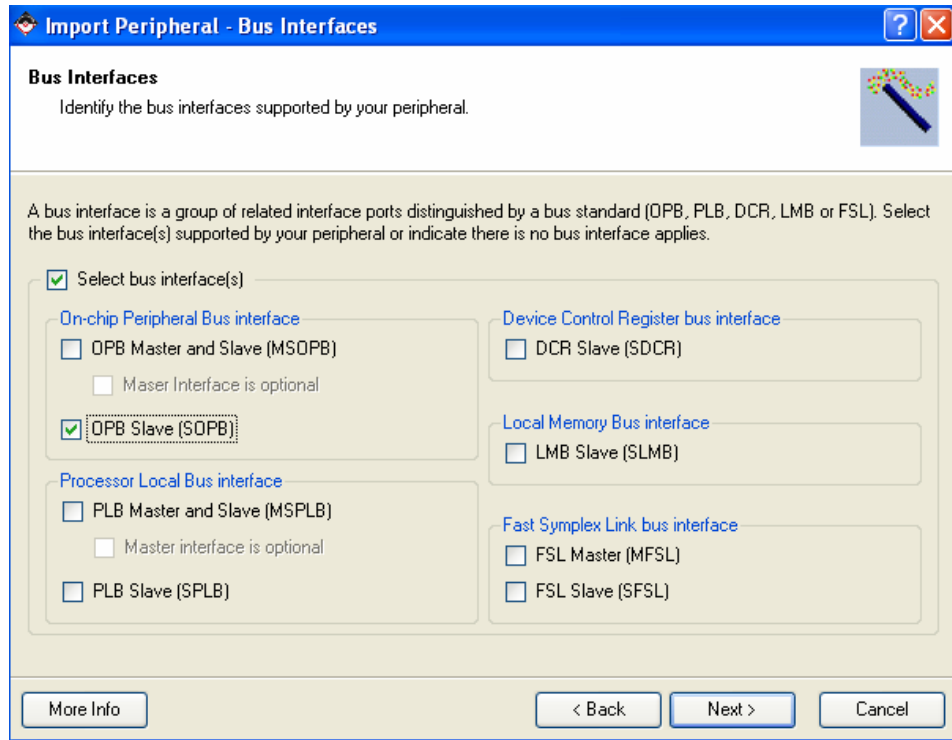

Figure 7. Import Peripherals – Bus Interfaces
12. If there is no error in the code, you should see the Bus Interface window as shown in Figure 7. Check OPB Slave (SOPB) under On-chip Peripheral Bus Interface. Click Next.